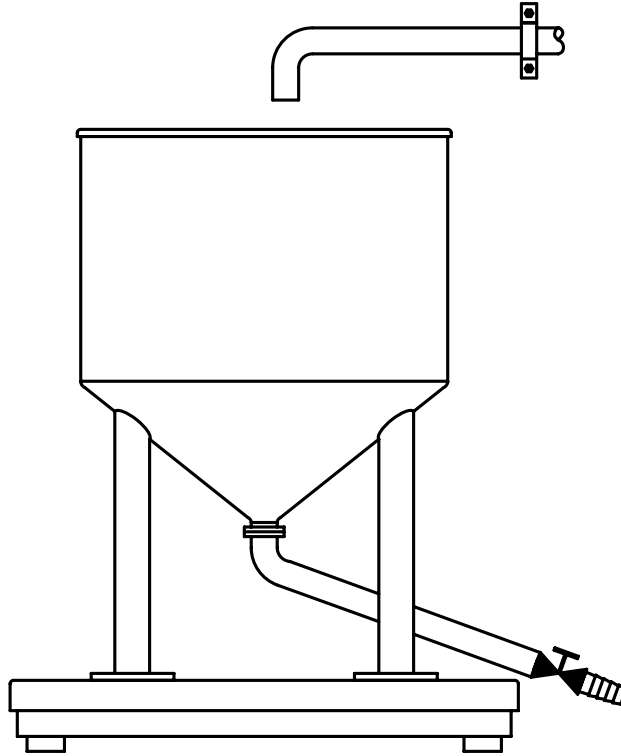

Figure 23: Reference Tank Scale
3. Material Transfer. With this method, material (such as water) is weighed on a separate reference scale and is transferred to the tank/vessel in question for calibration. This method is dependent on the accuracy of the reference scale and the care taken to avoid material losses in the transfer. It can be highly accurate if the reference scale is a METTLER TOLEDO precision scale based on MFR technology and piping effects are minimized, as shown in Figure 23.